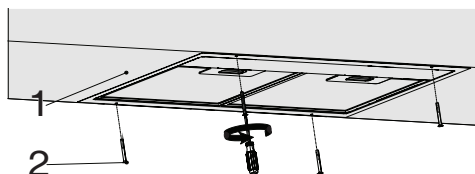

Figure 5
- Place the hood into the kitchen cabinet and attach the hood to 4 installation holes drilled before (Figure 5).